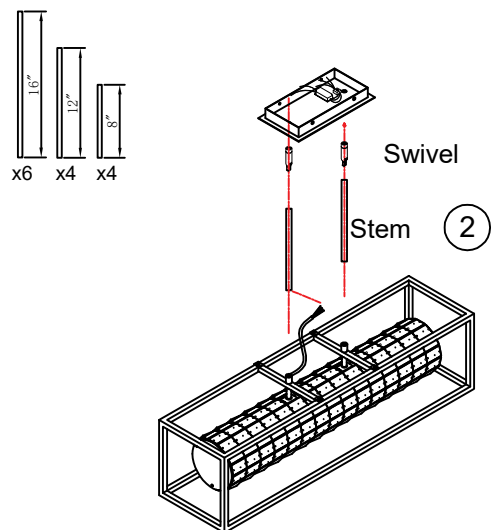

Fig.1
2. Determine the stem length required for installation, connect stems and thread wire through (Fig. 1).
3. Attach swivels to stems (Fig.1) then attach to canopy plate and canopy using canopy hardware provided (Fig.2).